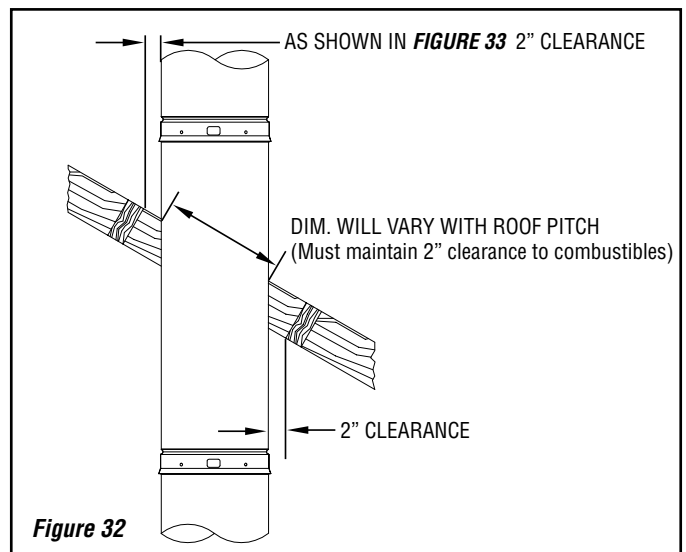

Figure 32
2. Install the next SP chimney section through the roof. See **Figure 32**.